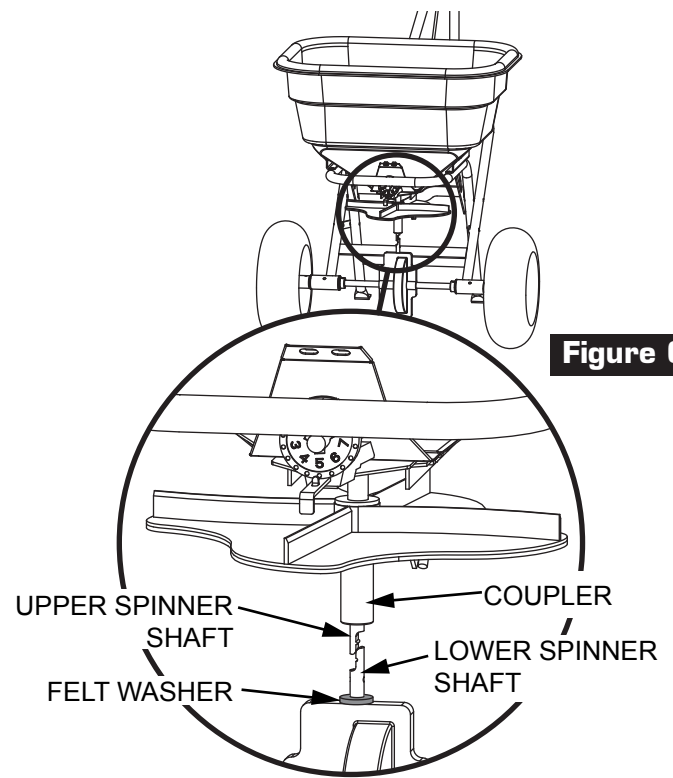

Figure 6
9. Install felt washer on shaft below the agitator wires. Slide shaft down through hopper. Install fan and coupler, Figure 6. Assemble so upper and lower spinner shafts interlock grooves. Slide coupler down over shafts.
Ensure the factory installed felt washer is on the lower spinner shaft, Figure 6.